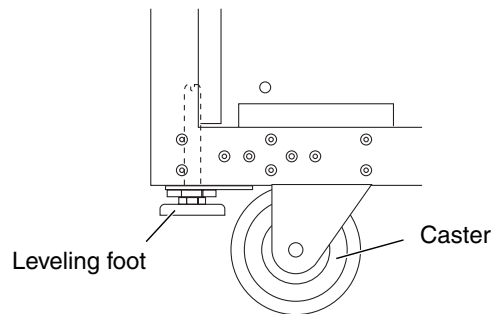

FIGURE 4-1 Retracted Leveling Feet
7. **Raise the leveling feet and ensure that they are fully retracted into the cabinet frame (FIGURE 4-1).**